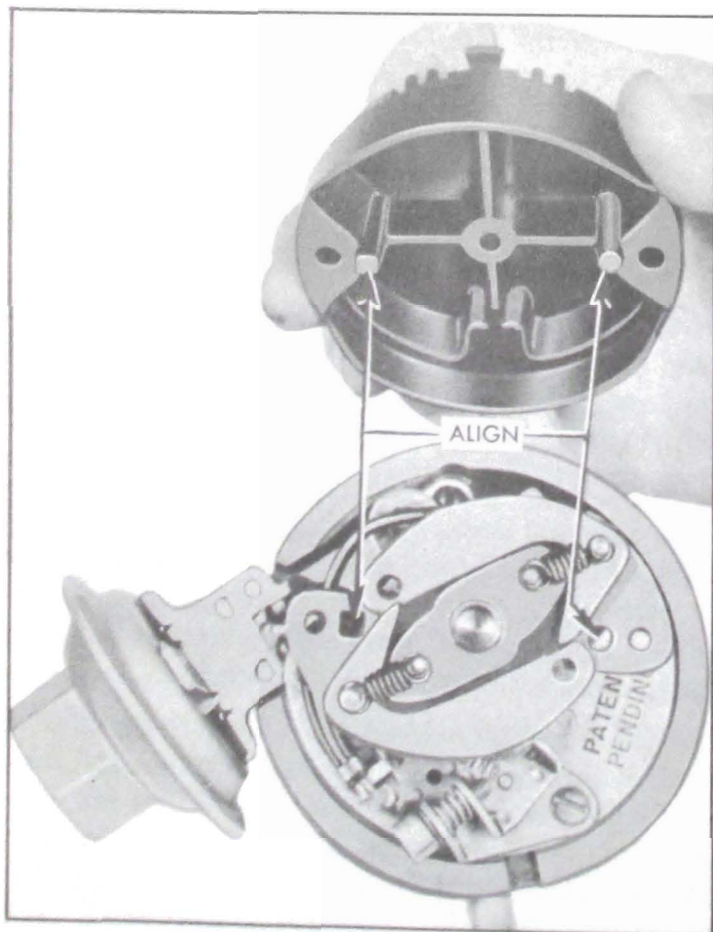

Figure 10-45—Removing and Installing Rotor
5. Install distributor cap. Make sure that spark plug wires are correctly installed in distributor cap, through clips on rocker arm covers, and on spark plugs. See figures 10-45, 46 and 47.
4. Remove rotor from end of distributor shaft by removing two attaching screws, lock washers, and flat washers. See figure 10-45.
NOTE: *The square and round lugs on the bottom of the rotor must be positioned in the corresponding holes in the weight base plate. See figure 10-45.*